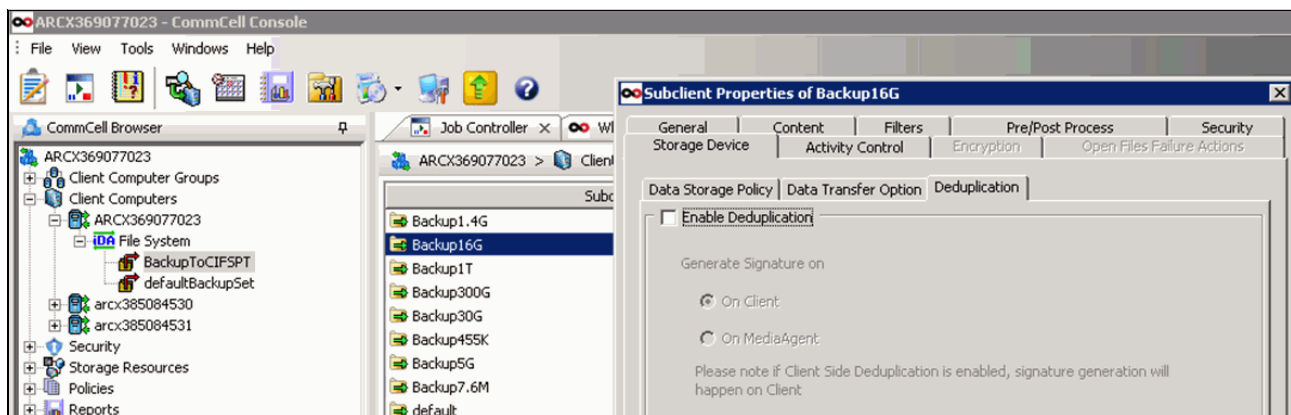

Figure 18-21 Disable deduplication
3. Click the **Deduplication** tab and clear the **Enable Deduplication** check box for this subclient (Figure 18-21).